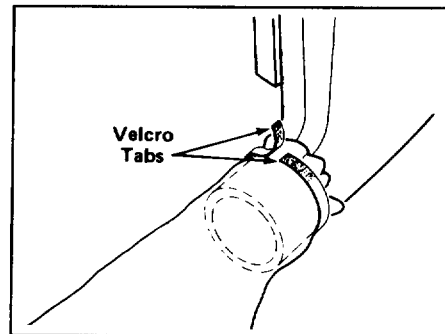

Figure 5
5. Fit opening of bag over exhaust opening sleeve on blower. Pull strap tightly to overlap velcro tabs and secure (Fig. 5).